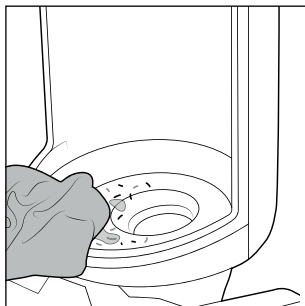

Fig. 26
- ◆ If necessary, clean the opening in which the waste water tank **2** is located on the appliance with a damp cloth or rag (see fig. 26).